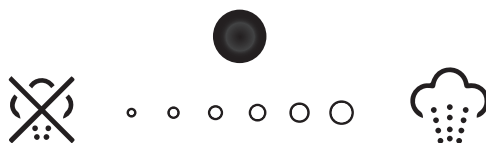

Figure 10. Control of the exhaust from the compartment.
- The oven compartment is equipped with a flue to remove steam from inside. Flow control through the flue is done by means of a lever located on the control panel (Fig. 10). The pressed lever means the flue is completely closed. Pulling the lever from the panel opens it and increases the flow.